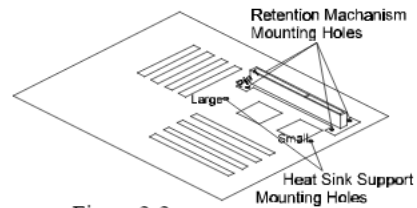

Figure 2-2
1. Finds out the Retention Mechanism (RM) Mounting Holes and "Pin 1" mark of Slot 1 on HOT-637 main board. (Refer to Figure 2-2)